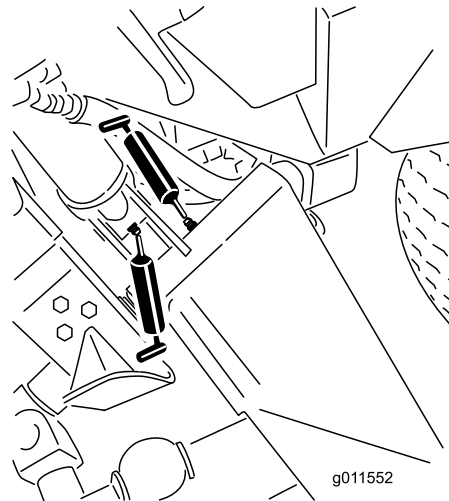
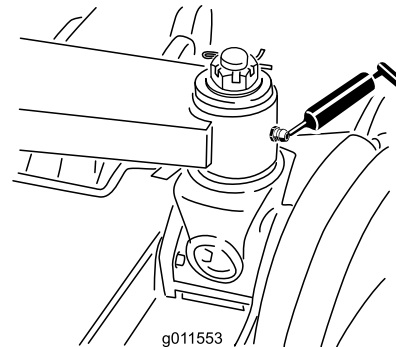

Figure 41
Figure 42
- Main-lift-arm bushings (6) (Figure 41 and Figure 42)